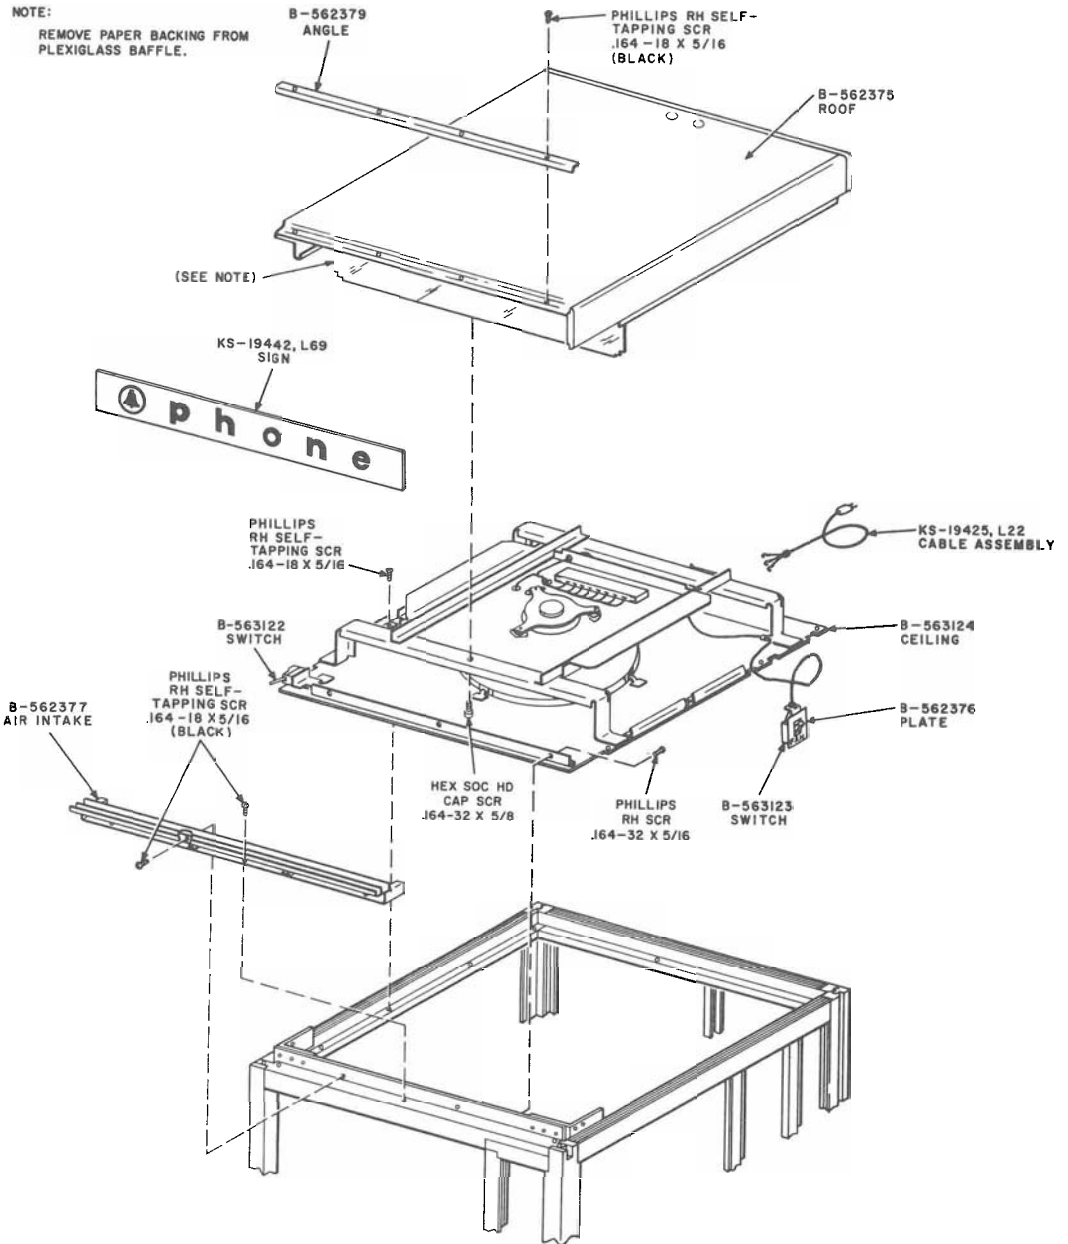

Fig. 21—Installation of Ceiling and Roof Assembly
- 4.12** Determine that the door operated switch (B-563122, Fig. 21) located in the left-front of the ceiling, properly actuates the blower unit. Access to the switch can be gained by removing the dome assembly.
- 4.16** Remove four .164-18 by 5/16 painted Phillips round head self-tapping screws which secure B-562379 angle to the roof (Fig. 21).
**4.19** If it becomes necessary to remove the roof (Fig. 21):